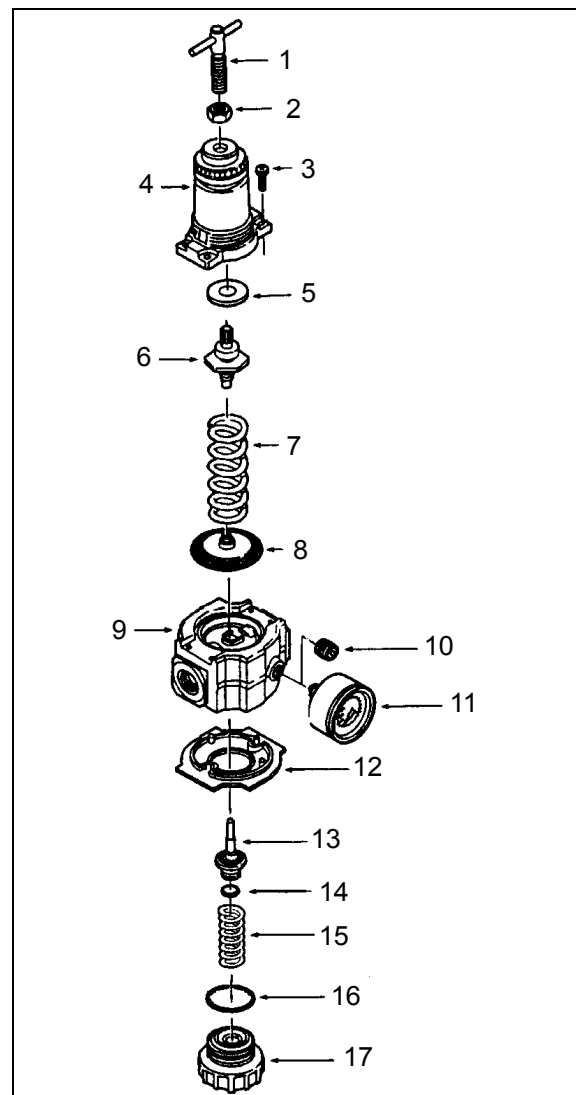

FIGURE 53: REGULATING VALVE
1. Before turning on system air pressure, release jam nut (2, Fig. 53) then turn regulator adjustment counterclockwise until all load is removed from the regulating spring.
5. Tighten jam nut (2, Fig. 53) to lock pressure setting.
1. Shut off inlet pressure and reduce pressure in inlet and outlet lines to zero. Turn regulator adjustment (1, Fig. 53) counterclockwise until all load is removed from regulating spring. Regulator can be disassembled without removal from air line.
1. Lubricate O-ring (14 and 16, Fig. 53), valve stem (13, Fig. 53), tip of adjusting screw (1, Fig. 53), and the outer circumference and both sides of the thrust washer (9, Fig. 53) with a light coat of good quality O-ring grease.